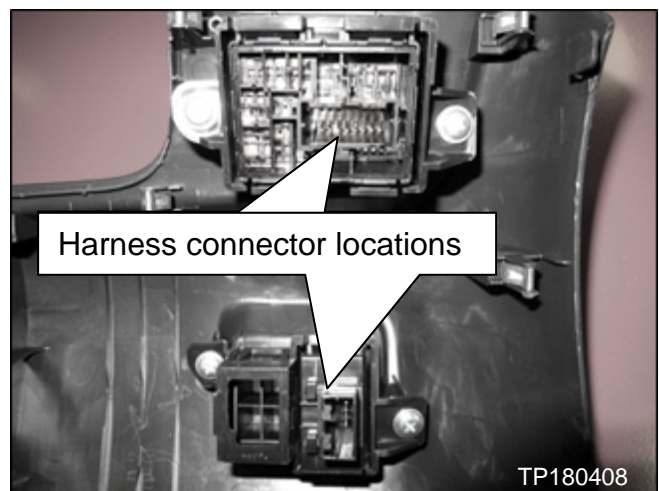

Figure 11
6. Disconnect the harness connectors from the back side of the instrument lower panel (LH).
- Figure 11 shows connectors already disconnected.